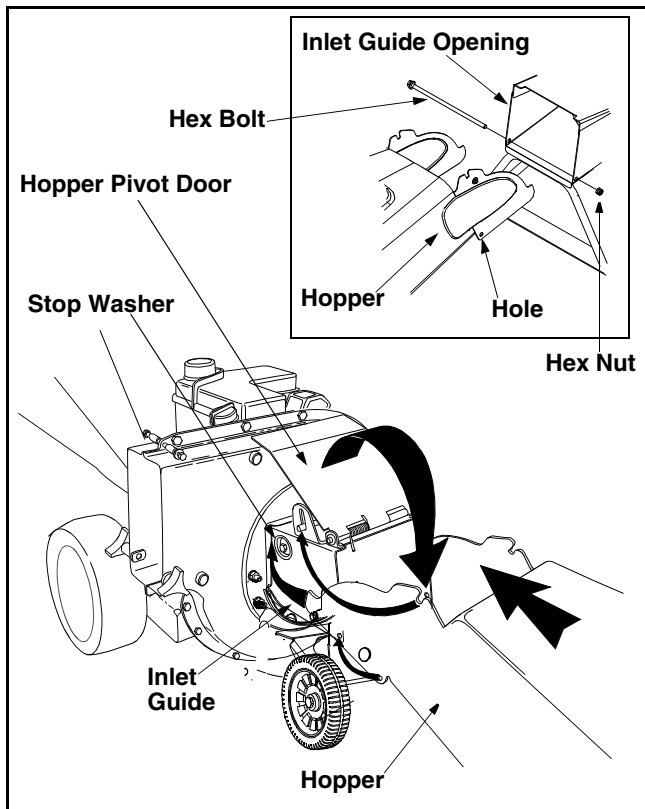

Figure 2
- Remove the 8-3/8" long hex bolt and the hex nut from the bottom of the inlet guide opening. See Figure 2.